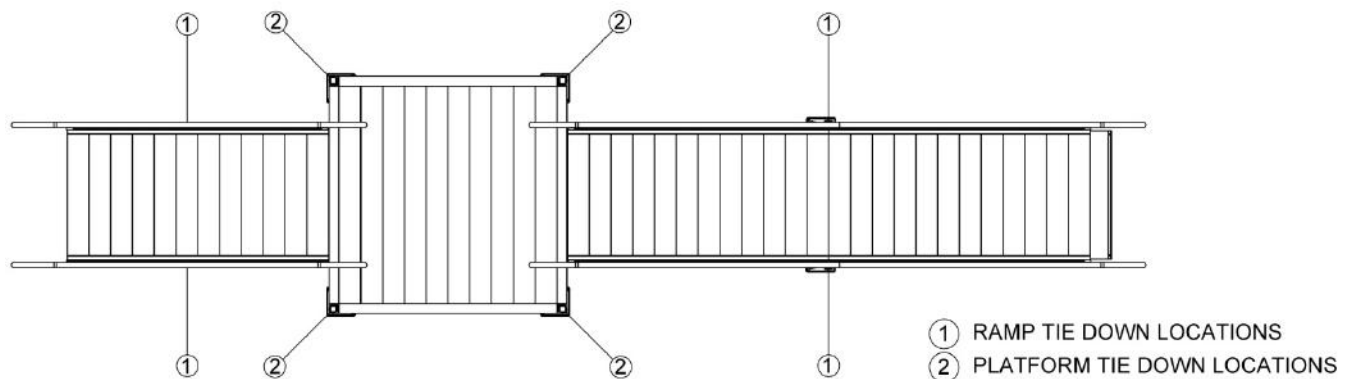

FIG. 7.10
The installer, based on field conditions, will determine the exact location of the tie downs. As a general rule, they should be positioned opposite one another as shown (FIG. 7.10)
- 7.7.9. If used on a single ramp, install tie downs approximately in the center using eyebolts (FIG. 7.10).